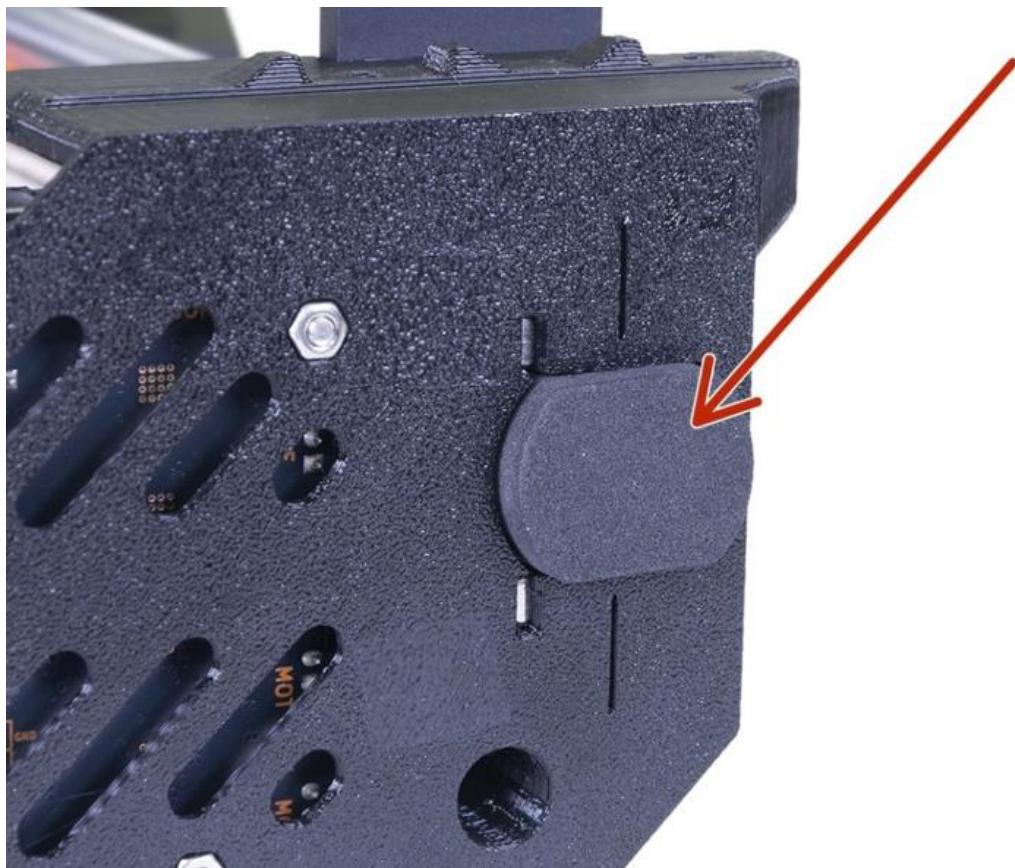

Figure 5.1.3
**B:** As shown in Figure 5.1.3. Attach a foam pad to the notch of the MINI-z-bottom.